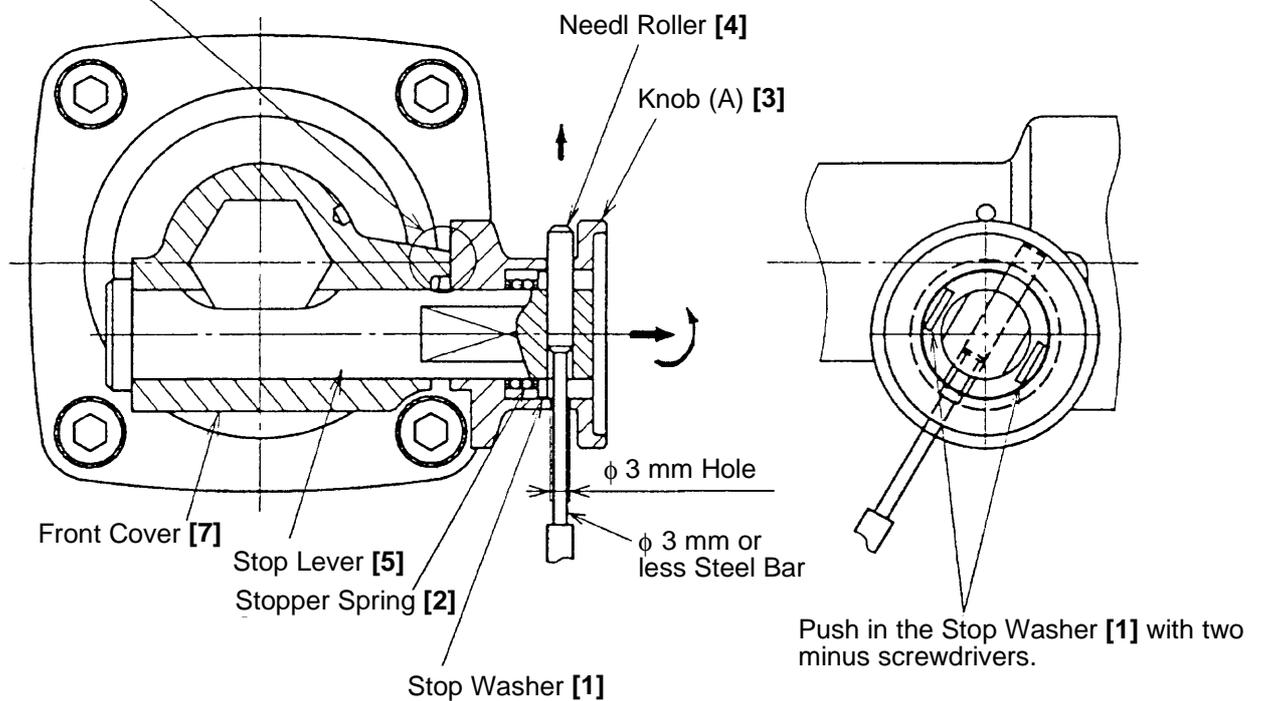

Fig. 14
(3) Tool Retainer
Disassembly procedures are illustrated in Fig. 14. Pull the Knob (A) [3] outward in the direction indicated by the arrow, and turn it slightly so that its end surface comes to rest on the flange portion of the Front Cover [7]. Push in the Stop Washer [1] with two minus screwdrivers to compress the Stopper Spring [2], and insert a steel rod (less than 3 mm in diameter) into the 3 mm diameter hole in the Knob (A) [3] to push out the Needle Roller [4]. The Stop Washer [1], Stopper Spring [2], Stop Lever [5], and Knob (A) [3] can then be taken off.